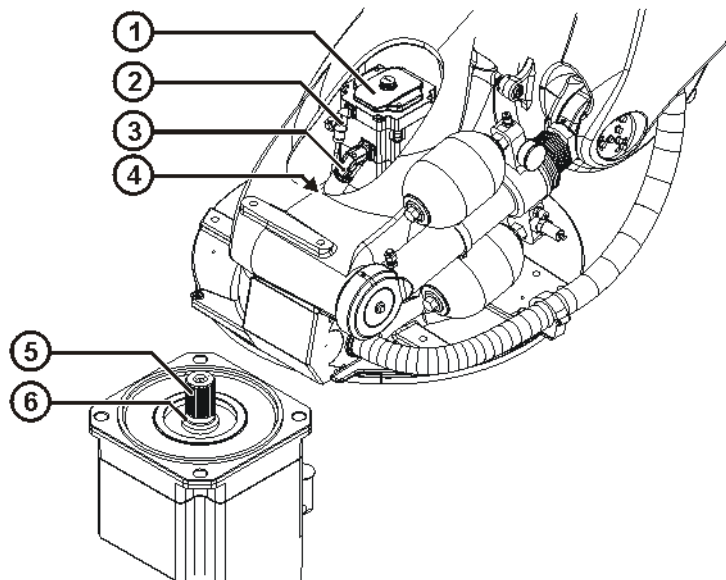

Fig. 10-2: Installing motor A1
1. Remove all protective coatings and oil from new motor A1, if applicable (>>> Fig. 10-2 ).